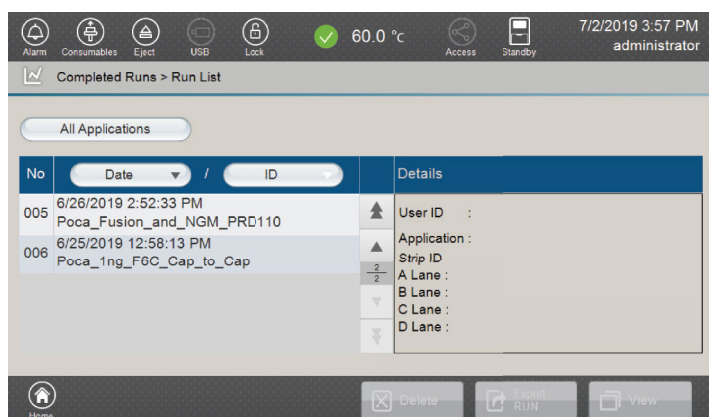

Figure 107. 'Run List' screen.
The 'Run List' screen is divided into two main sections: Run List and Run Details (Figure 107).
1. From the 'Run List' screen (Figure 107), select the desired run from the displayed list.
2. Select **Export Run** in the footer of the 'Run List' screen (Figure 107). The sample file will be exported to the USB drive and stored in a folder named "Run".
After reviewing and exporting data, you can delete the entire run from the instrument by selecting the desired run name in the 'Run List' screen (Figure 107) and then selecting **Delete**. A warning window will appear asking if you are sure you want to delete the selected data. Select **Yes** to delete and **No** to cancel the deletion.